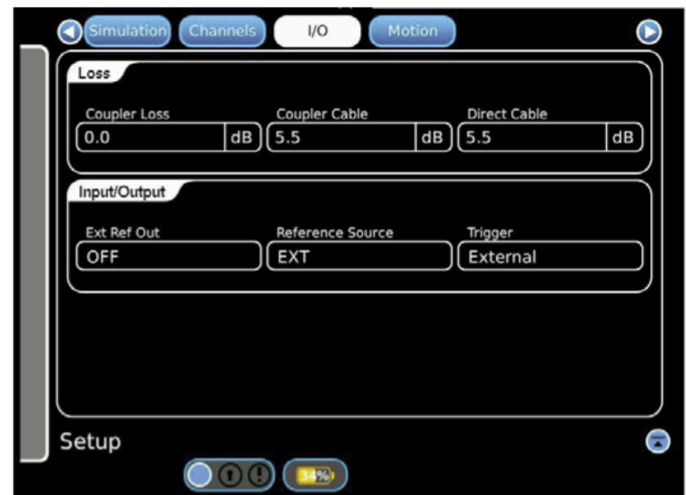

Figure 4
5. On GPSG-1000 #2 Menu Bar select Setup. On the Setup screen at the top row select the I/O tab. Set Ext Ref Out to OFF, Reference Source to EXT, and Trigger to External. See Figure 4.